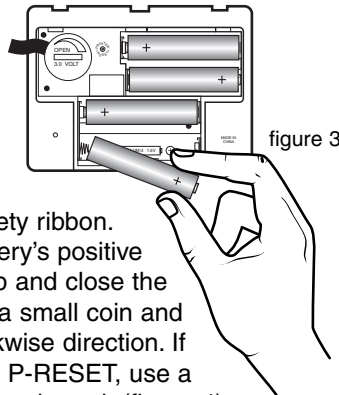

figure 3
2. To activate printing functions, insert 4 AA batteries. (figure 3)
3. To activate the LCD display, open the lithium cell battery door by using a small coin (see figure 3) and discard the red safety ribbon. Make sure the battery's positive (+) sign is facing up and close the battery door using a small coin and twisting it in a clockwise direction. If the LCD is flashing P-RESET, use a ballpoint pen to reset the unit (figure 4).